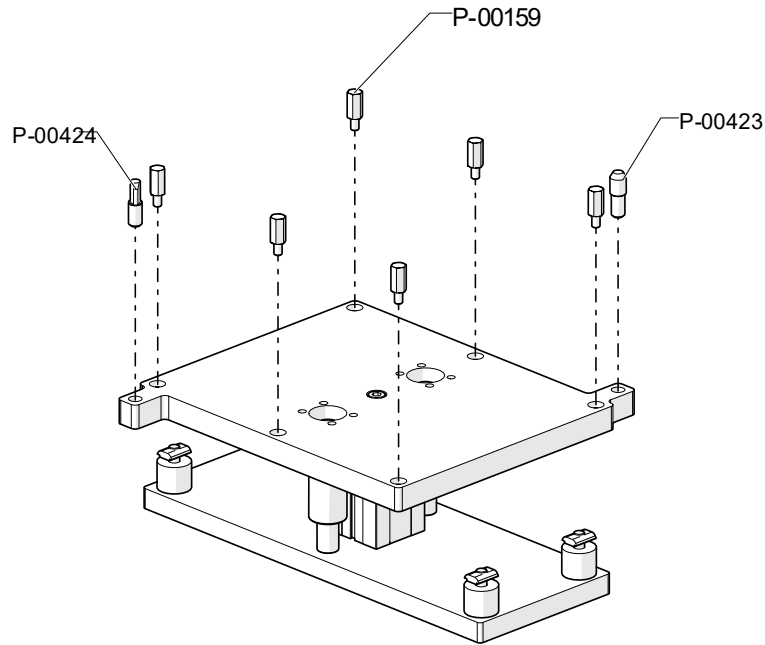

Figure 20: Rest Buttons, Diamond and Round Pins
Step 6: Reinstall Top Plate Assembly and Secure with M8 SHCS as shown in Figure 20